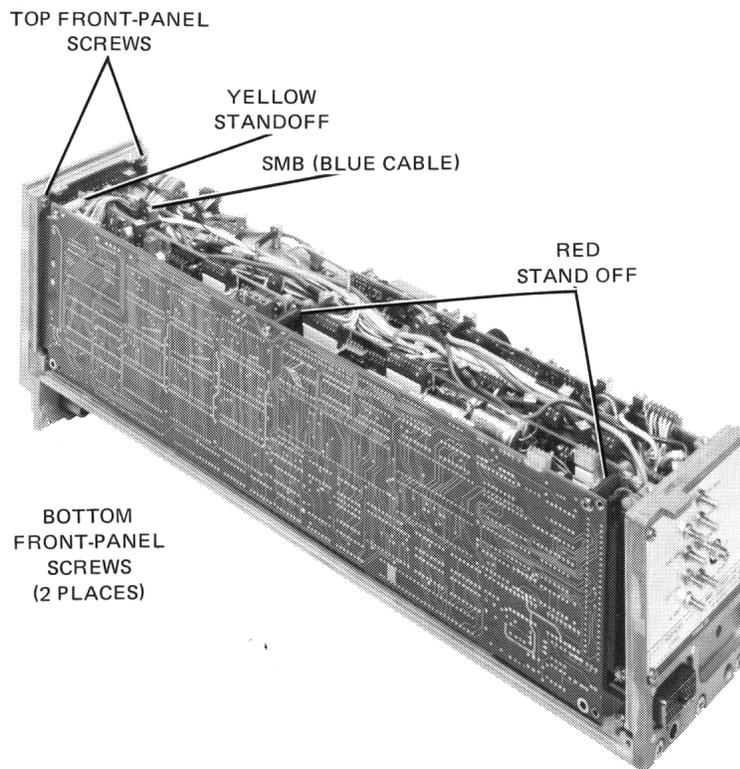

Figure 5-19. LO Front Frame Removal
2. Disconnect the SMB connector of the blue cable between the front-panel connector and the top of the module. See Figure 5-19.
3. Remove the two cables attached to the control board assembly. Next, remove the three screws and plastic standoffs. See Figure 5-19.
2. Remove the four front-panel mounting screws from the back side of the frame. (Refer to Figure 5-19 for the position of the screws.) Lift the panel off the frame.